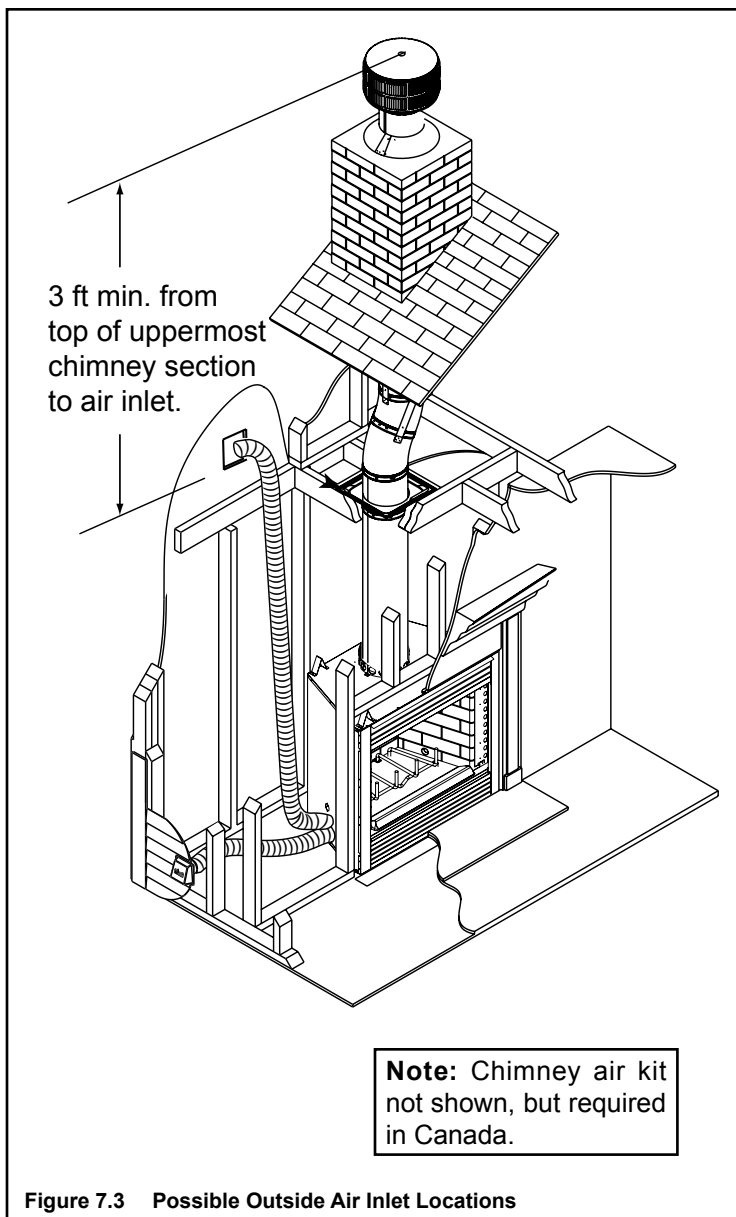

Figure 7.3 Possible Outside Air Inlet Locations
- Install as shown in Figures 7.3, 7.4 and 7.5.